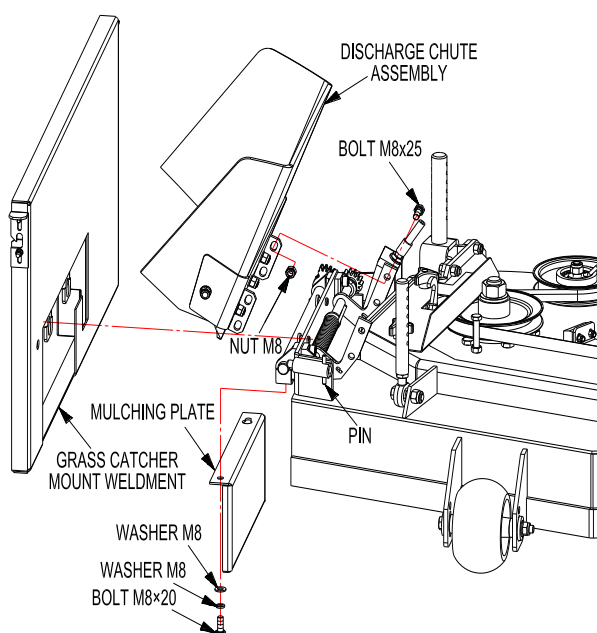

FIG 8
- When the mower is assembled with a Kohler engine, compress the foot pedal down, the mulching plate will close. Remove the 4 M8×25 bolts attached to the discharge chute assembly and 1 M8×20 bolt attached to the mulching plate. Remove chute assembly and mulching plate. Attach the grass catcher mount weldment to the pin on the mower deck, rotate the pin 90 degrees, insert it into the hole on the grass catcher mount weldment. When assembling the grass catcher on other models, you only need to remove the mulching plate, not the discharge chute. (FIG 8)